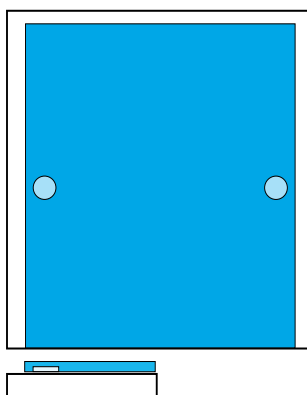

Fig 3-1. Position of the reference markers on the gel backing when gel has been cast.
- 4 When finished, the markers should be in positions similar to those shown in Fig. 3-1.